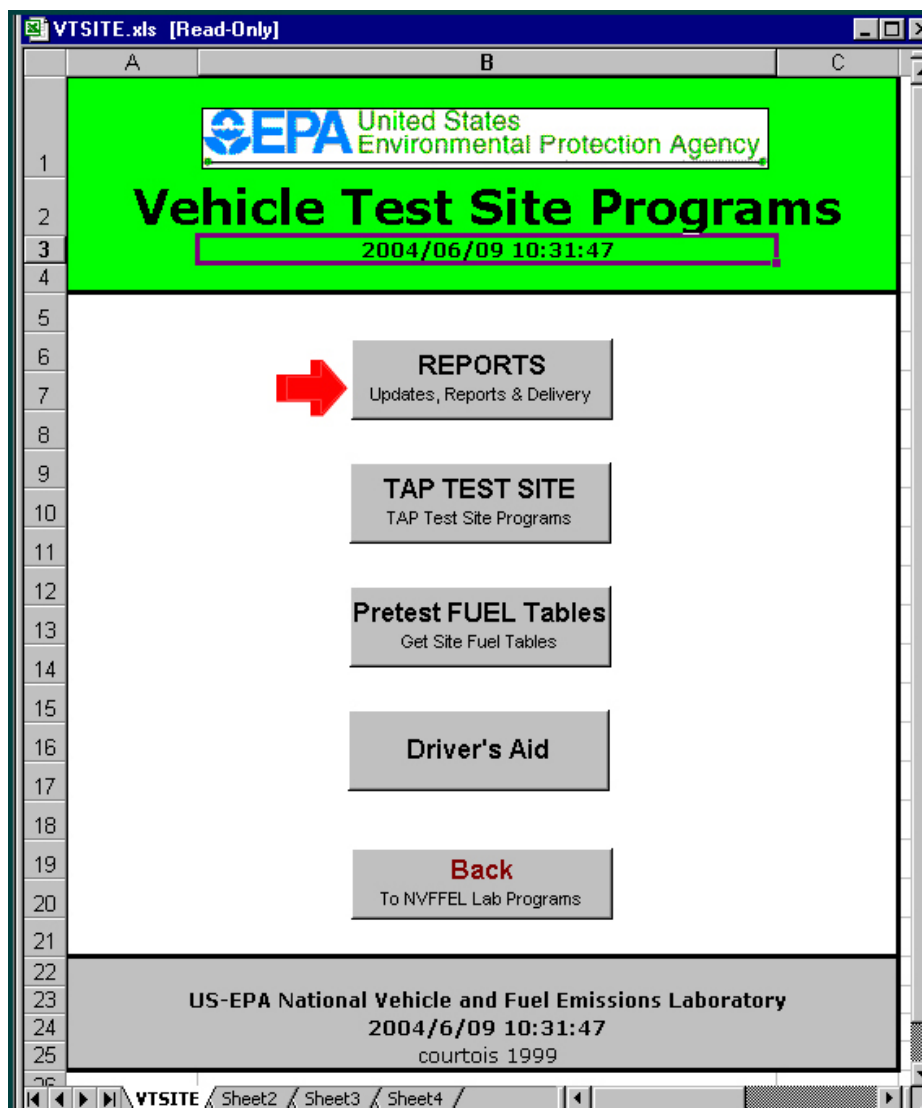

Figure 40
- 609 In the "Vehicle Test Site Programs" screen, click on the "REPORTS Updates, Reports & Delivery" button. See the arrow in Figure 40.